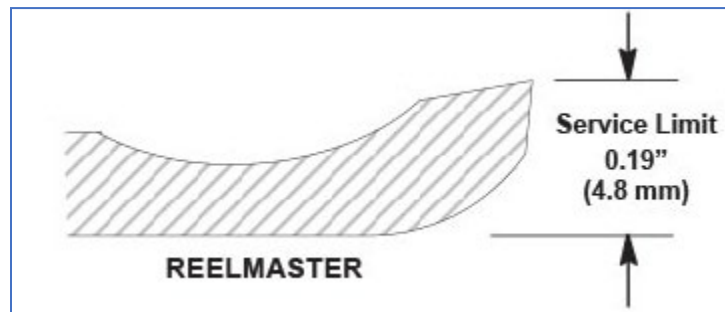

Figure 4
4. Worn bedknives will eventually weaken the insert joint. Measure the bedknife wear per Toro | Reel Mower Sharpening Guidelines and Bedknives Reference Chart See Figure 4